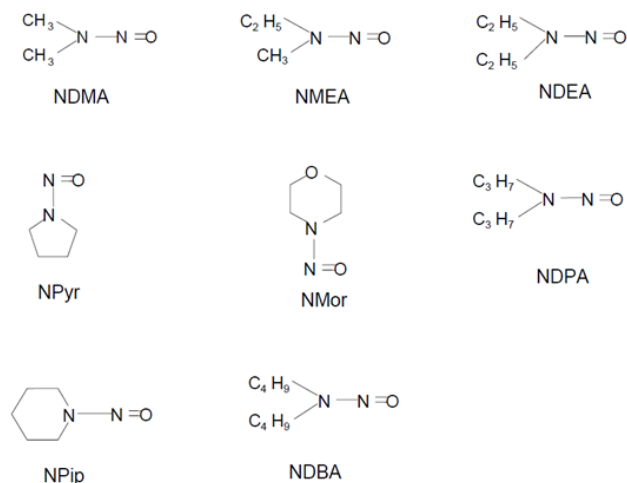

Figure 1: Structures of 8 nitrosamine compounds selected for quantitative analysis.
In response to public concern, this document presents the use of the SCIEX QTRAP® 4500 LC-MS/MS System to actively respond to national and societal appeals, partnering with the state to build multi-layered safety protections and full-process monitoring systems spanning from water sources to faucets. The method described for quantifying 8 nitrosamines (Figure 1) offers a simple and rapid solution for the accurate determination of nitrosamine disinfection byproducts in drinking water.
**Mass spectrometry:** The SCIEX QTRAP® 4500 System were employed during method development and data collection. The APCI probe on the Turbo V™ Source was used in positive ion mode with the following parameters (CUR: 30psi GS1: 50psi, NC: 5, TEM: 400°C, CAD: medium. Figure 1 shows the structure of nitrosamines, while Figure 3 shows the parameters of the MRM transitions for each.